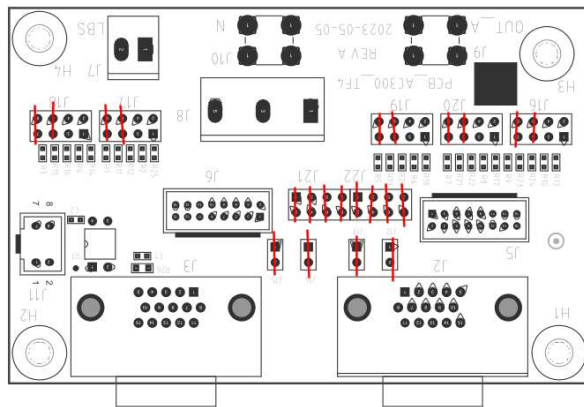

Figure 5-8 Two UPS parallel
- Two UPS parallel: J12-J15, J21, J22 needs to be short through short circuit blocks, J16-J20 only needs to short circuit 2 of them, as shown in Figure 5-8.